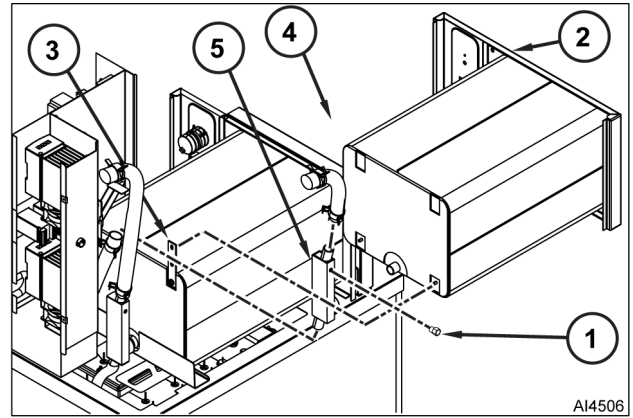

Fig. 45
- B. Remove sensor probe fitting (1, Fig. 45) from vent weldment (5).
- C. Remove vent hose (4) from vent weldment (5).
12. Remove cable clamp and drain hose from bottom of vent weldment (5).
13. Remove mounting nuts that secure cooking compartment (2) to vertical mounting brackets (3).
15. Remove vent weldment (5) cooking compartment (2).